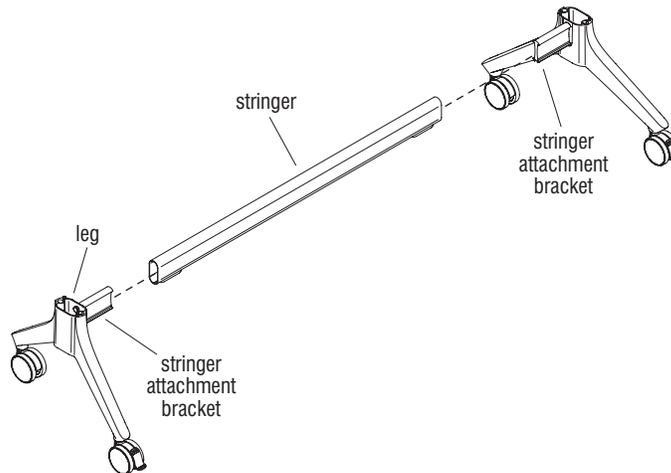

Figure 2
8. Orient the stringer so the side with two mounting holes on each end is on the underside of the stringer (Figure 2).
9. One leg at a time, insert the stringer attachment bracket into an available open end of the stringer, making sure the mounting holes are on the bottom of each end of the stringer. If the stringer is not positioned correctly for installation, disassembly and reassembly will be required (Figure 2 & Detail B).